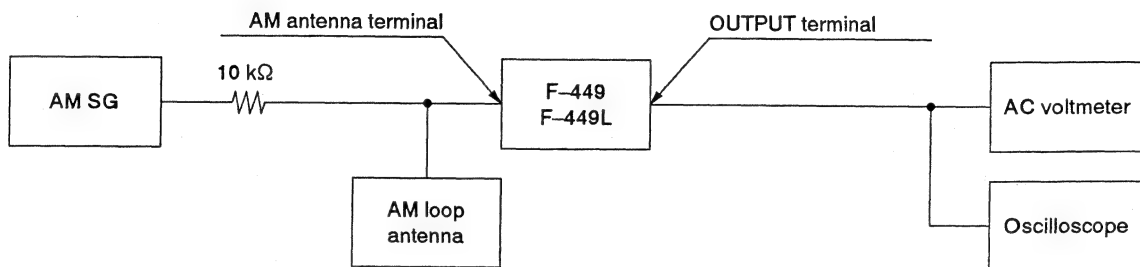

Fig. 6-2 AM Tuner Connection
- Connect as shown in Fig. 6-2.